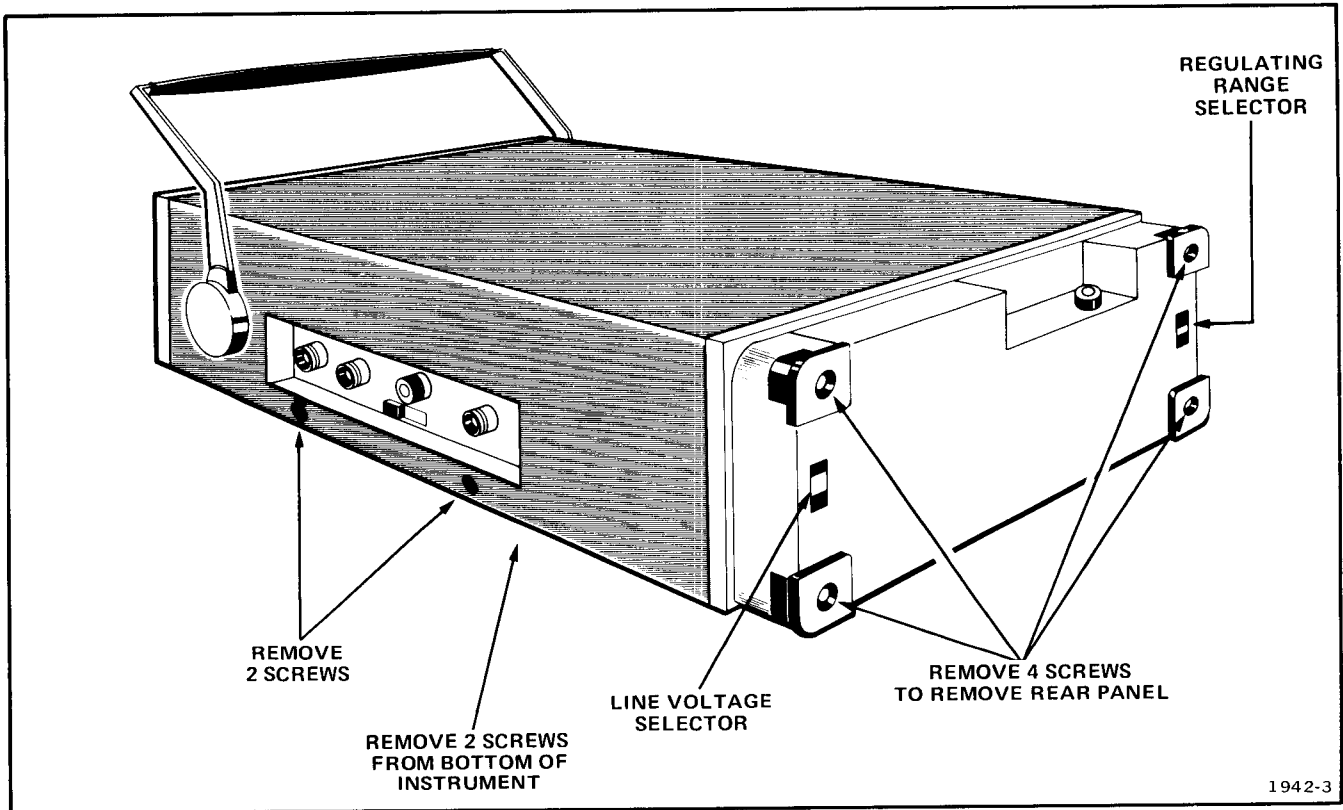

Fig. 2-2. Cabinet removal.
Set the Line Voltage Selector Switch to the nominal line voltage available. Remove the instrument rear cover to change the setting of the Line Voltage Selector switch (see Fig. 2-2). Fuse size must be changed when changing nominal line voltage setting (refer to Fuse Information in this section).
Set the Regulating Range Selector Switch (see Fig. 2-2) so the expected line-voltage fluctuations remain within the Regulating Range selected (see Table 2-1).
1. Loosen the four screws holding the cabinet feet (cord wrap) and remove the cord-wrap feet (see Fig. 2-2).